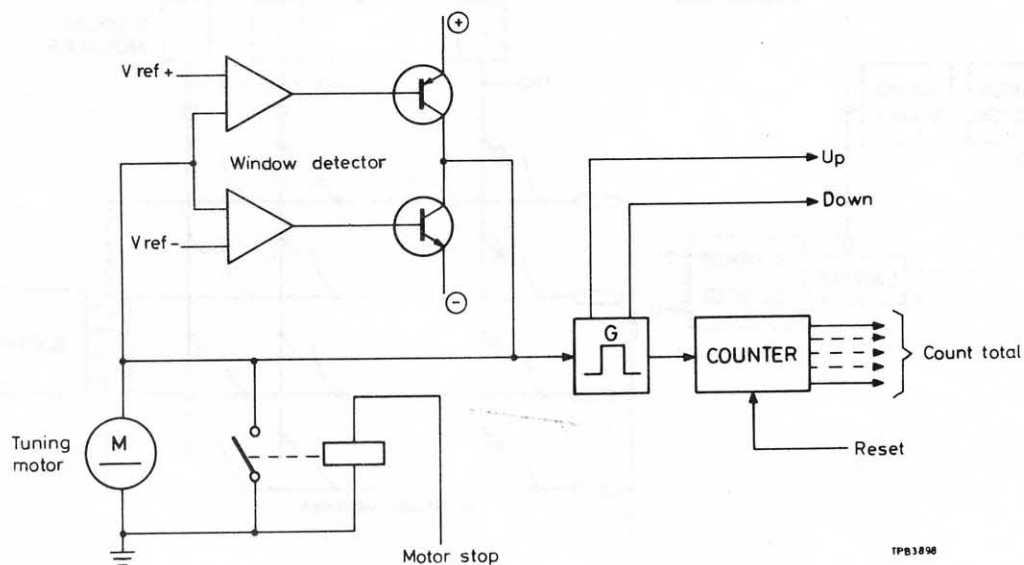

Fig. 25 Manual tuning system
81. When the tuning knob is rotated a voltage, the polarity of which is determined by the direction of rotation, is generated and applied to the input of the integrator formed by IC3 and C1. When the output from the integrator exceeds the threshold voltage at the input of either of the comparators IC4 or IC5, the monostable formed by IC6c and IC6d is triggered producing a pulse which is fed via IC6e to output contact 10 and then to the gate of f.e.t. TR4 thus discharging C1. At the same time the output of the relevant comparator triggers the R-S bistable formed by IC6a and IC6b to give an UP/DOWN indication at contact 9. Continuous rotation thus results in a train of pulses whose rate is proportional to the speed of rotation, at contact 10, and direction information at contact 9. Overall operation is shown in Fig. 25.